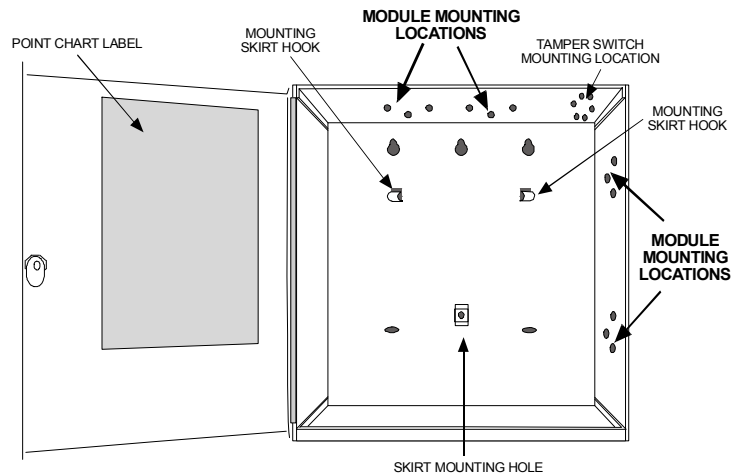

Figure 2: Mounting Enclosure
1. Align the OctoPOPIT module with any of the four mounting locations in the enclosure. See Figure 2.